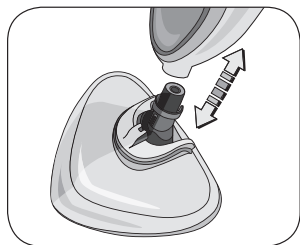
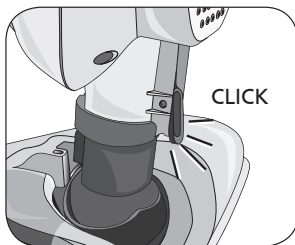

Fig. 2
Fig. 3
Assemble the appliance body (P) to the steam head (Fig 2). The correct installation occurs with a "click" (Fig 3).